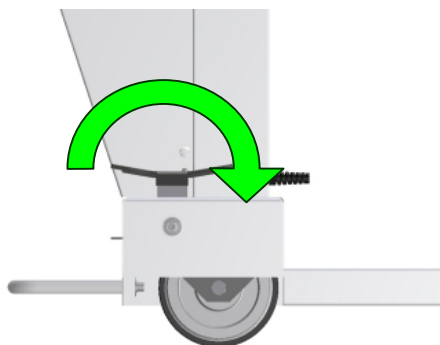

Figure 7
- Release the stationary brake (see Figure 7)